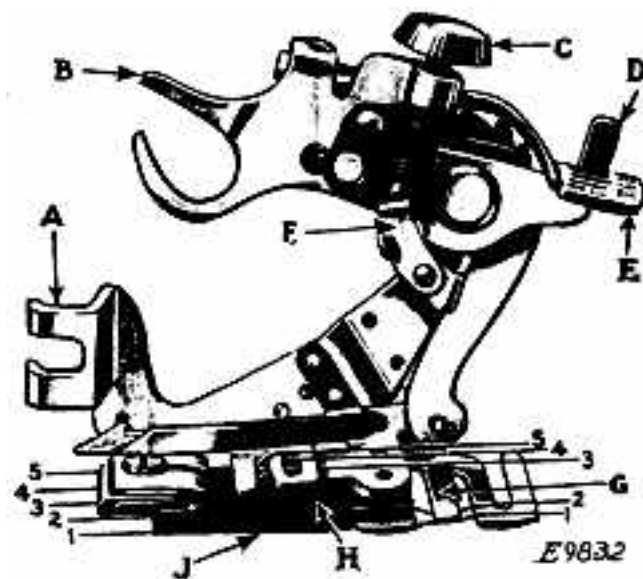
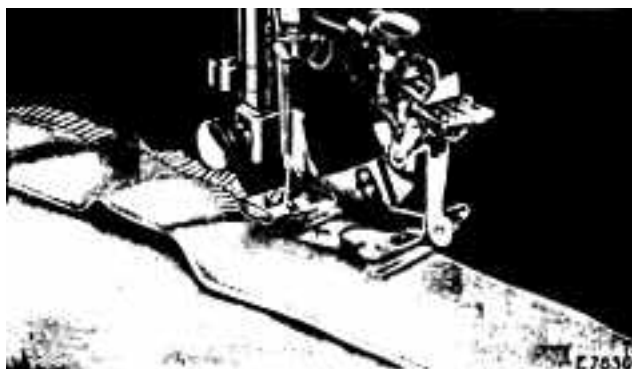
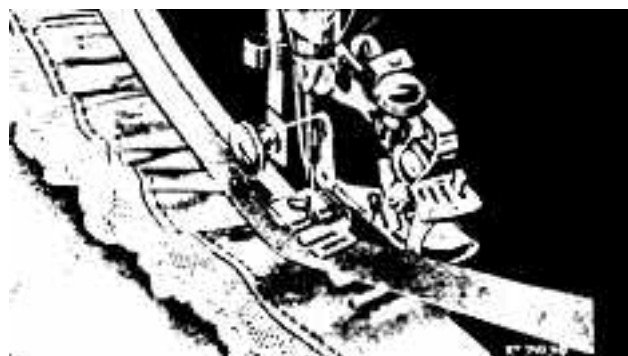
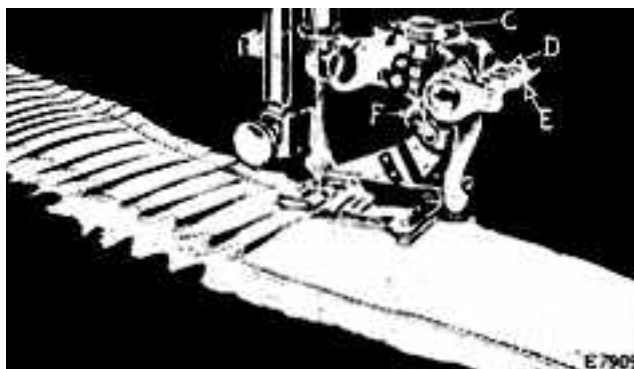

FIG. 26. THE RUFFLER AND ITS PARTS
FIG. 28.
FIG. 29.
FIG. 31.
Lines 1, 2, 3, 4 and 5 shown in Fig. 26 indicate where the material is to be placed for various operations, as follows:
Refer to Fig. 26 when inserting the material in the ruffler.
(SEE: REFERENCES IN Fig. 26)
Raise the needle bar to its highest point and remove the presser foot. Attach the ruffler foot, (A, Fig. 26) to the presser bar by means of the thumb screw, at the same time placing the fork arm (B, Fig. 26) astride the needle clamp as shown in Fig. 27.
Raise the adjusting lever (E, Fig. 27) and move it to the left so that the projection (D, Fig. 27) will enter the slot marked "1" in the adjusting lever (E) when the lever is released. The ruffling blade will then move forward and back once at every stitch. Insert the material to be ruffled between the two blue blades, following the line 2 in Fig. 26. Draw the material slightly back of the needle, lower the presser bar and commence to sew.
Insert the material to be ruffled between the two blue blades, as shown in Fig. 28, following the line 2, in Fig. 26. Place the garment to which the ruffle is to be attached, under the separator blade, following the line 1, in Fig. 26. Proceed the same as for gathering.
Insert the material to be ruffled between the two blue blades, following the line 2, in Fig. 26.. Place the garment to which the ruffle is to be attached, under the separator blade, following the line 1, in Fig. 26. Place the material for the facing over the upper blue blade, as shown in Fig. 29, following the line 3, in Fig. 26. The facing may be straight or bias material. If the facing is to be on the right side of the garment, place the garment and the ruffle so that the wrong sides are together. If the facing is to be on the wrong side, place the right sides of the garment and the
Insert the material to be ruffled between the two blue blades, following the line 2, in Fig. 26. This material must not be over 1 1/4 inches wide, as it is carried through the ruffler with the finished edge of the ruffle to the right of the attachment as shown in Fig. 30
The material for piping must measure about 1/4 inch wide when folded in the centre and is usually cut on the bias. Place the piping material in the ruffler, following the line 4, in Fig. 26, with the folded edge of the piping to the right. The material to which the piping and ruffling are to be sewn should be folded on the edge and inserted in the ruffler, following the line 5, in Fig. 26.
Raise the adjusting lever (E, Fig. 31) and move it to the right so that the projection (D, Fig. 31) will enter the slot marked "6" in the adjusting lever when the lever is released. The ruffling blade will then move forward and back once at every six stitches. To adjust the ruffling blade to make a plait once at every twelve stitches, place the adjusting lever (E, Fig. 31) so that the projection (D) enters the slot marked "12" in the adjusting lever. Insert the material to be plaited between the two blue blades, following the line 2, (Fig. 26). The size or width of plaits is regulated by the adjusting screw (C, Fig. 31) and the adjusting finger (F, Fig. 31). To make a wider plait, move the adjusting finger (F) back or toward the needle and turn the adjusting screw (C) downwardly. To make a smaller plait, turn the adjusting screw (C) upwardly. The distance between plaits is regulated by the length of stitch.